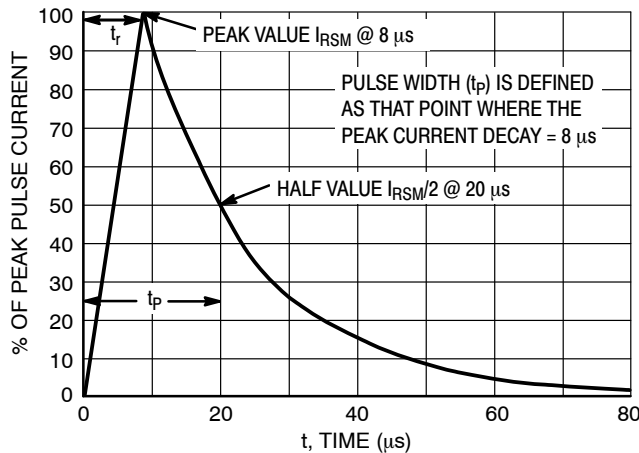

Figure 5. 8 X 20 μs Pulse Waveform
| Peak Pulse Current, 8 x 20 μs double exponential waveform (Figure 5) | I _{pp} | 2.0 | A |
- Surge current waveforms per Figure 5.